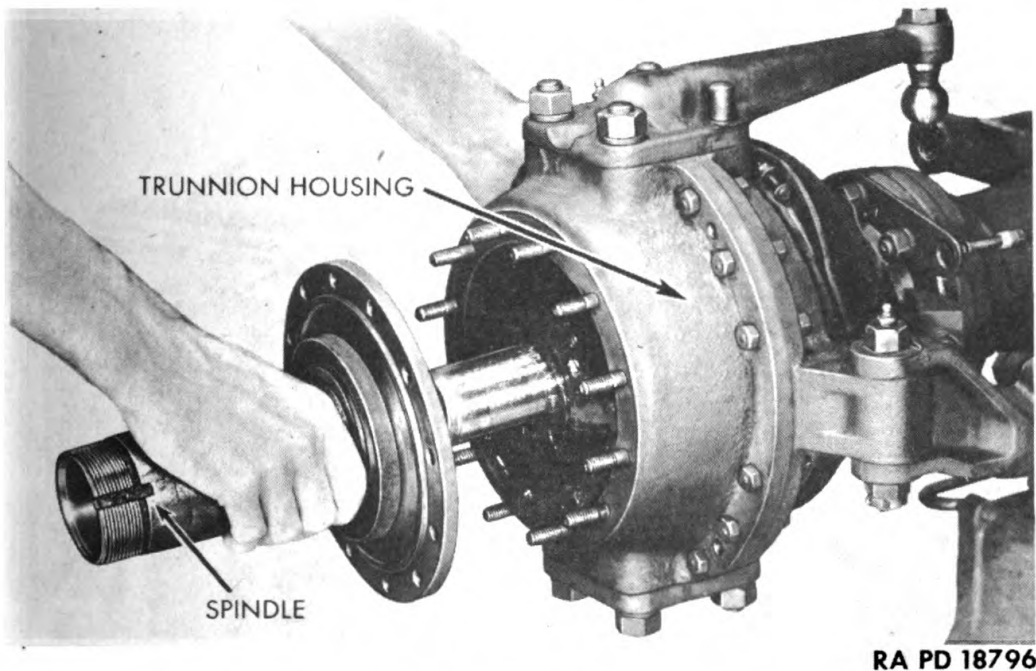

Figure 29 — Removing Front Axle Wheel Spindle
f. **Remove Wheel Spindle.** Remove wheel spindle from studs and from trunnion yoke housing (fig. 29). Tapping with a lead hammer will facilitate separating spindle from housing.